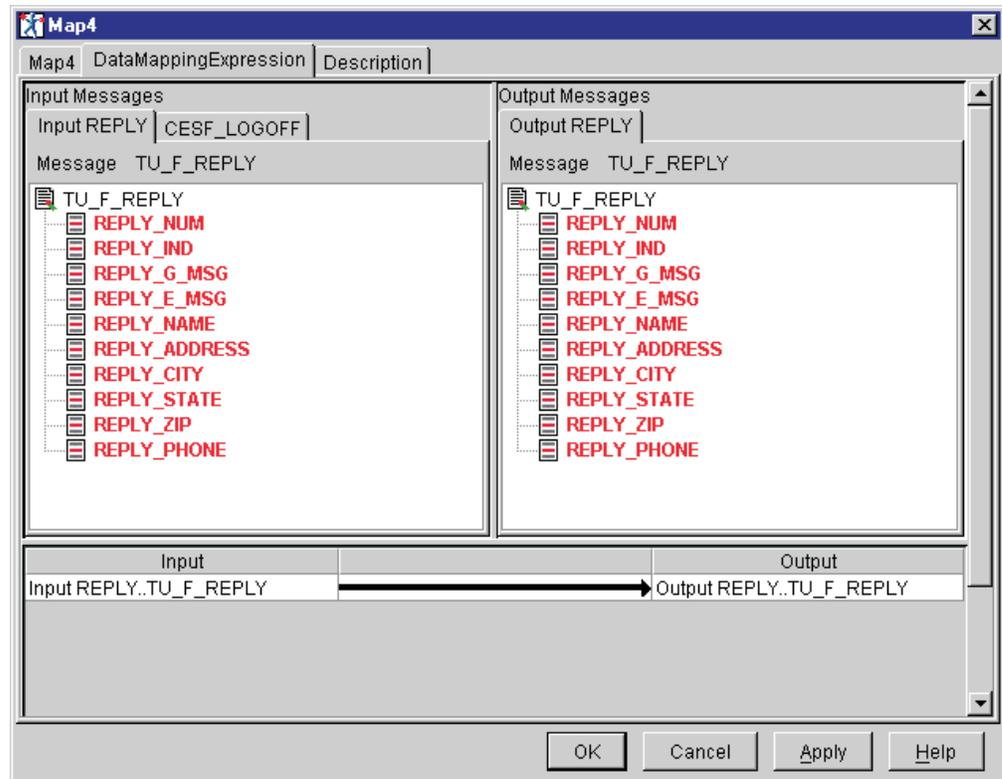

Figure 144. Mapping for Map4 node
- 4) Perform the mapping for the Map4 node as listed in Table 66 and shown in Figure 144 on page 187. On an Valid Signoff condition, the mapper passes along the REPLY record.